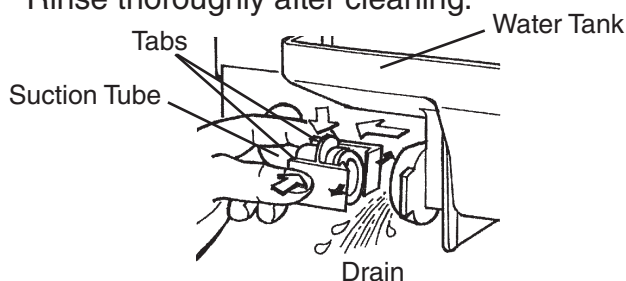

Fig. 31
- 7) Inside the ice storage bin, disconnect the suction tube by squeezing the tabs and pulling the tube clear. See Fig. 31. Allow the water tank to drain.